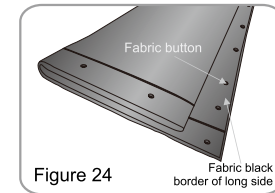

Figure 24
- Take off the fabric from the frame by releasing the buttons ( Figure 24 ). Clean the fabric if necessary. Double up the fabric along the short sides as Figure 24, then double up again as Figure 25. (100" fabric double up thrice, 120" and 150" fabrics double up quartic. ) Then double up again as Figure 26 indicates. Leave the black border alone in case of scratch. (two operators are required.)